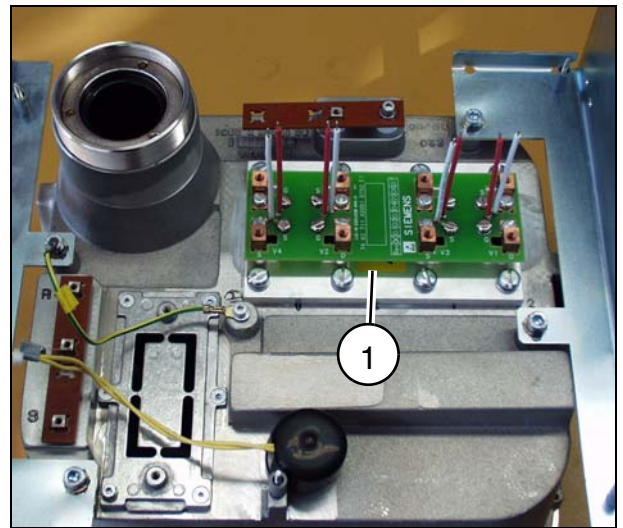

Fig. 3
- Remove the 4 transistor modules (old type) or the transistor module unit (1/Fig. 3) (8 screws).
- Attach the transistor module unit with the 8 screws to the high voltage transformer (1/Fig. 3).